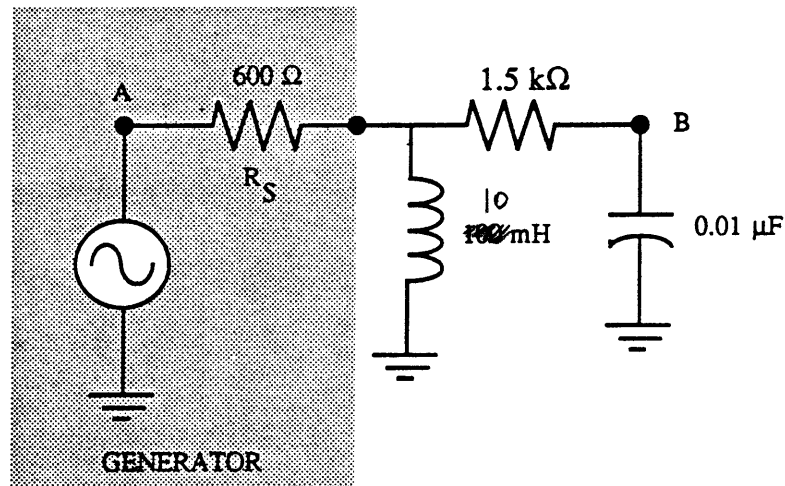

Figure 4.3 - Network for frequency response measurements
- (1) Using the scope, set the signal generator to produce a $10 V_{p-p}$ sine wave at 1 KHz with zero DC offset. Do not change the amplitude setting for the rest of this part. You can assume that the generator will produce a constant $10 V_{p-p}$ for all of the frequencies used in this part of the lab.
- (2) Build the circuit shown in Fig. 4.3. R_s is the internal output resistance of the generator.
- (1) Construct the circuit shown in Figure 4.3 where $R_{\text{probe}}=10\text{M}$ and C_{probe} is a 1.2-30 pF variable capacitor. This is the same circuit you built in Lab #3.
- (2) Set the generator to a 1 KHz square wave at maximum amplitude and zero DC offset.
- (3) Connect the probe input (point C) to point A. Observe what happens as you turn the variable capacitor a full 360 degrees.
- (4) Adjust the capacitor so that the tops and bottoms of the square wave are perfectly flat and horizontal. (Note that this is how you would adjust any compensated probe. Terminal C-7 on your scope is a square wave source provided for compensating probes.)
- (5) Remove the wire between points A and C and connect points B and C.
- (6) Record the displayed voltages with the generator set to a sine wave for the frequencies shown in Table 4.5.
- ① Make Bode plots of the phase and magnitude response of the circuits of Figures 4.3 and 4.4 using your data from Tables 1 and 2. Using a different color pen or pencil, add straight line approximations to each of the four graphs. Please draw all of your plots on graph paper.
Table 4.1 Frequency response of Figure 4.3 circuit